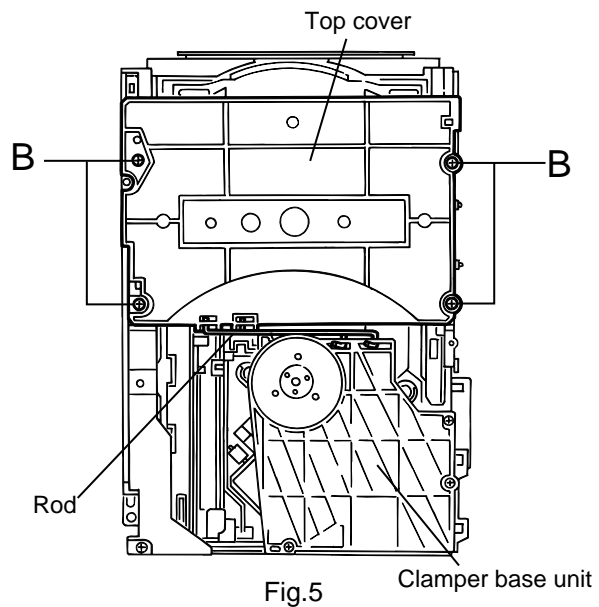

Fig.5
**■ Removing the tray select switch board (See Fig.5,6 and 23)**